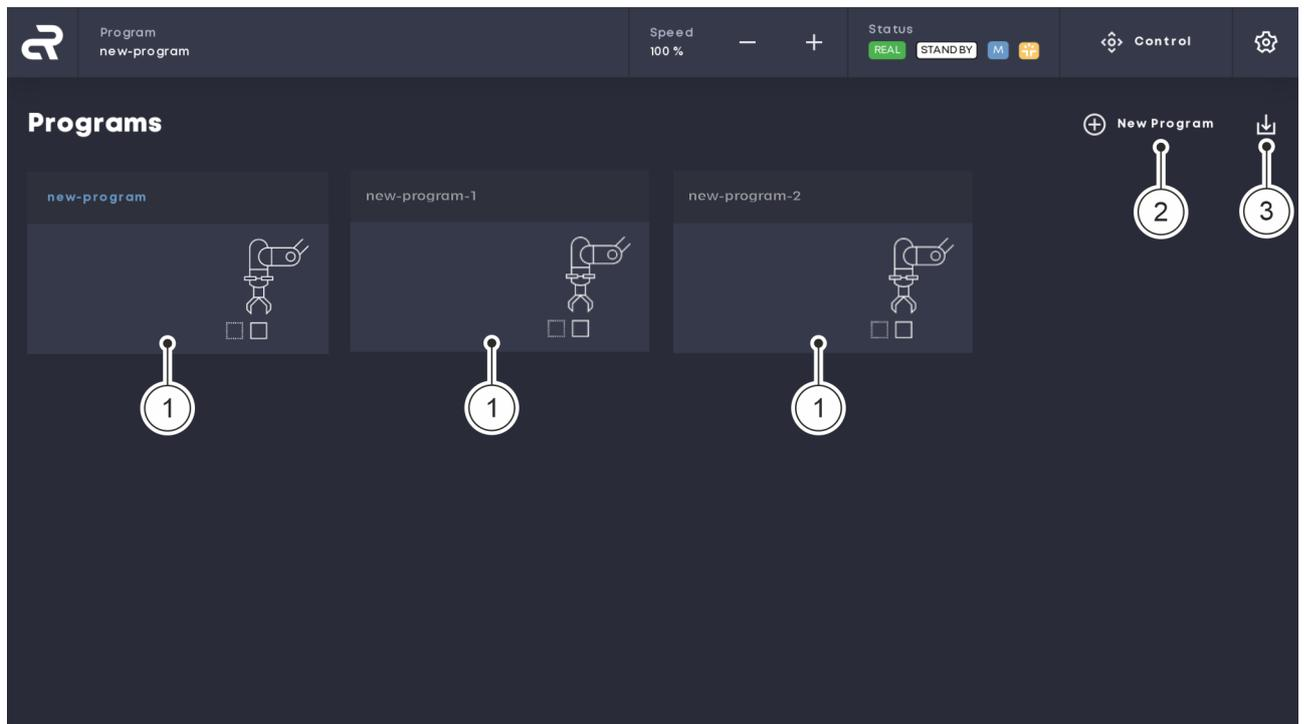

Fig. 4 Main screen
- ① Existing programs
- ② Create new program
- ③ Import program
All collaborative and non-collaborative applications of the robot are defined in the form of programs by the system integrator. Previously created programs Fig. 4/① are displayed on the main screen of the user interface.
Press the 'New Program' button create new programs Fig. 4/②.
Press the 'Import Program' button to import programs Fig. 4/③.